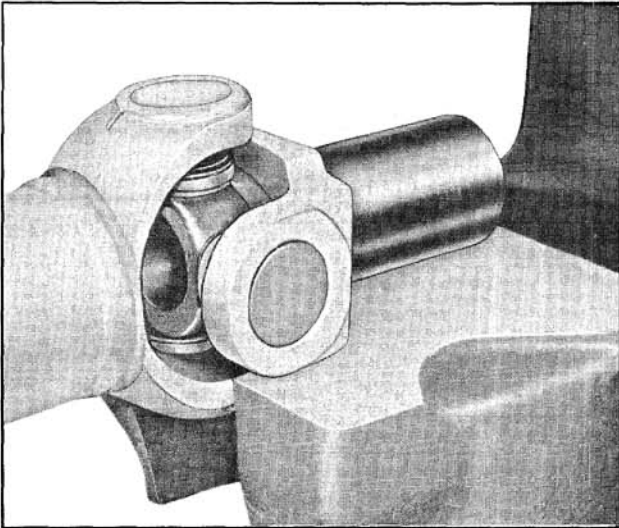

Fig. 10-72 Supporting Propeller Shaft
2. Support splined yoke on a press bed with the rear of the propeller shaft on a stand so shaft is horizontal. Be sure the weight is evenly distributed on each side of the splined yoke and that the fixed yoke half of the U-joint is free to move downward. (Fig. 10-72)